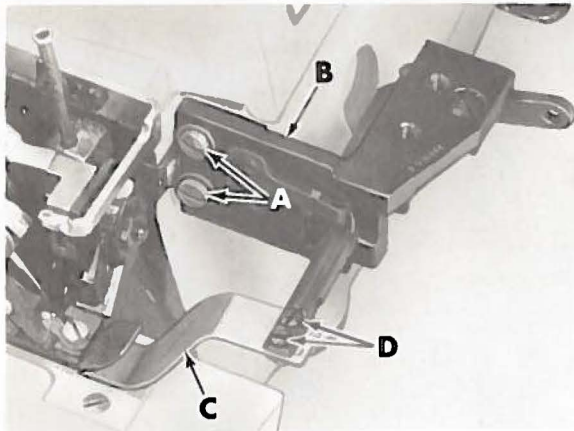

Fig. 18
Replace shirring blade assembly. With shirring blade in position, lock presser foot in sewing position and turn handwheel in operating direction until feed dogs are at their highest position. Loosen screws (A, Fig. 18) and adjust shirring blade mounting bracket (B) so the shirring blade (C) is level and lies flat on the feed dog teeth. Position mounting bracket (B) forward or rearward to obtain 1/32 inch (.8mm) clearance between top front edge of shirring blade (C) and the underside of presser foot, then tighten screws (A).